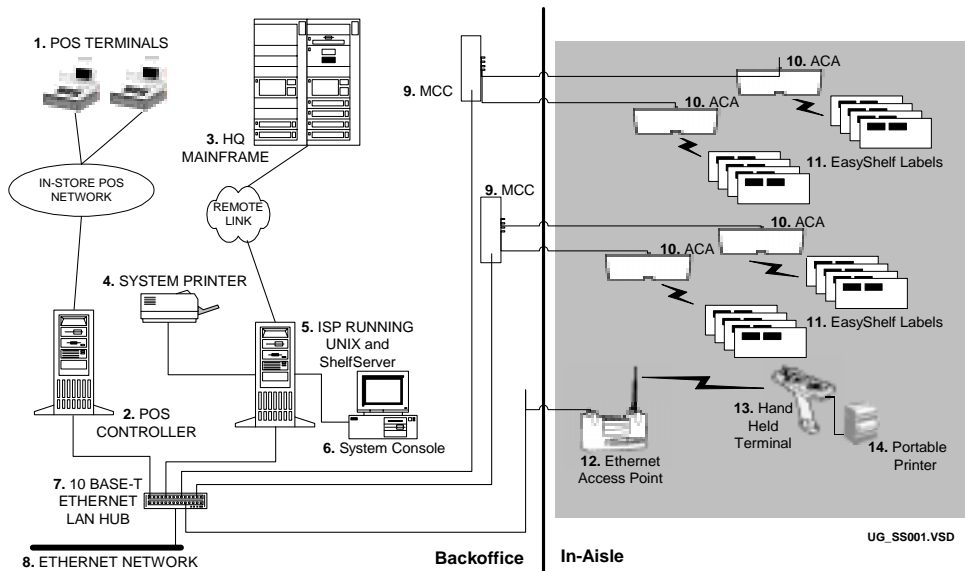

Figure 1-1. Typical ShelfNet System Overview
*Figure 1-1 Typical ShelfNet System Overview* shows how a store-wide ShelfNet installation is typically configured to run ShelfServer software to control and maintain ESLs.
In Figure 1-1 Typical ShelfNet System Overview, two **POS terminals (1)** are shown. For large installations, there are many more POS terminals, in many different configurations. At each store, the POS terminals are connected into a POS network loop with a POS controller running its own operating system (OS). The **POS Controller (2)** is linked with an existing **ISP (5)**, running a ShelfNet compatible operating system and ShelfServer. The store headquarters or chain-wide **Mainframe (3)** is remotely linked with ShelfServer running on the ISP. Also linked to the ISP is a **System Printer (4)**, which is used by store personnel to print ESL overlays and reports.
The ShelfNet system is made up of several major hardware and software components that interact with the computer system in each store. This section describes each of the major hardware components. The number in parenthesis next to the component name allows you to relate each component to its position within the system by referring to Figure 1-1.